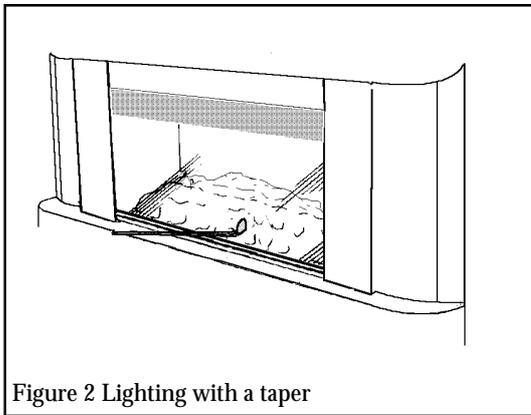

Figure 2 Lighting with a taper
- If the spark ignition fails, the fire can be lit manually by inserting a lighted taper below the glass window and into the centre of the coal (as shown in figure 2), and depressing the control knob at the 1/IGN position.